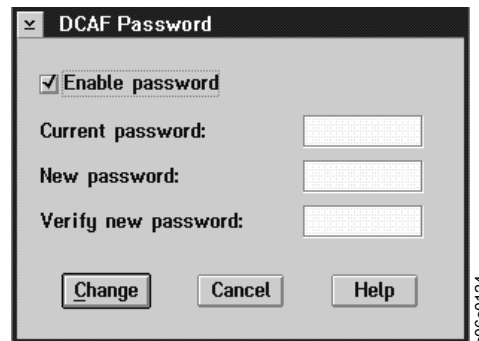

Figure 192. DCAF Password
3. In the DCAF Password window (Figure 192), select the **Enable password** check box.